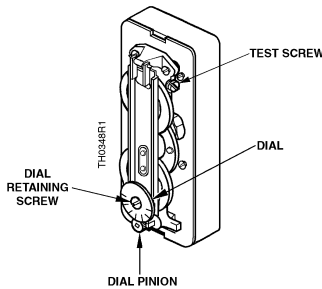

Figure 3. Test Screw Location.
4. Loosen test screw (see Figure 3) using a screwdriver, 1/2 turn counterclockwise.
If the dial reading and room temperature do not agree, loosen dial retaining screw with a screwdriver. (See Figure 3.)
6. If the dial reading and room temperature do not agree, loosen dial retaining screw. (See Figure 3.)